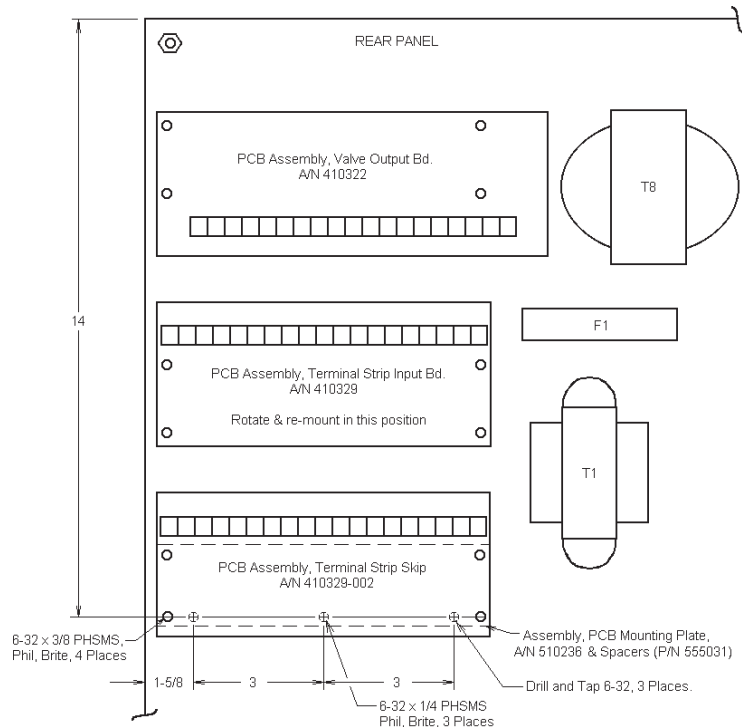

Figure 2. Mounting detail for “L”, “H”, “G” or “U” Cabinet
3. Remove the four (4) screws holding the Terminal Strip Input Board (A/N 410329) to its mounting bracket. Rotate the Board 180° (so the terminal strip is at the top) and re-mount the Board using the same four (4) screws.
4. Drill and tap rear panel per Figure 2, be sure to vacuum or otherwise remove ALL metal chips before assembling PCB Mounting Plate (A/N 510236) to rear panel using 3 ea. 6-32 x 1/4 PHSMS, Phil., Brite. Add extra spacer (P/N 555031) to each existing spacer (4 places) to offset PCB 1" from panel.
5. Mount External Terminal Strip Skip PCB (A/N 410329-002) to bracket (P/N 510236) using four (4) #6-32 x 1/4 PHSMS, Phil., Brite. See Figure 2.